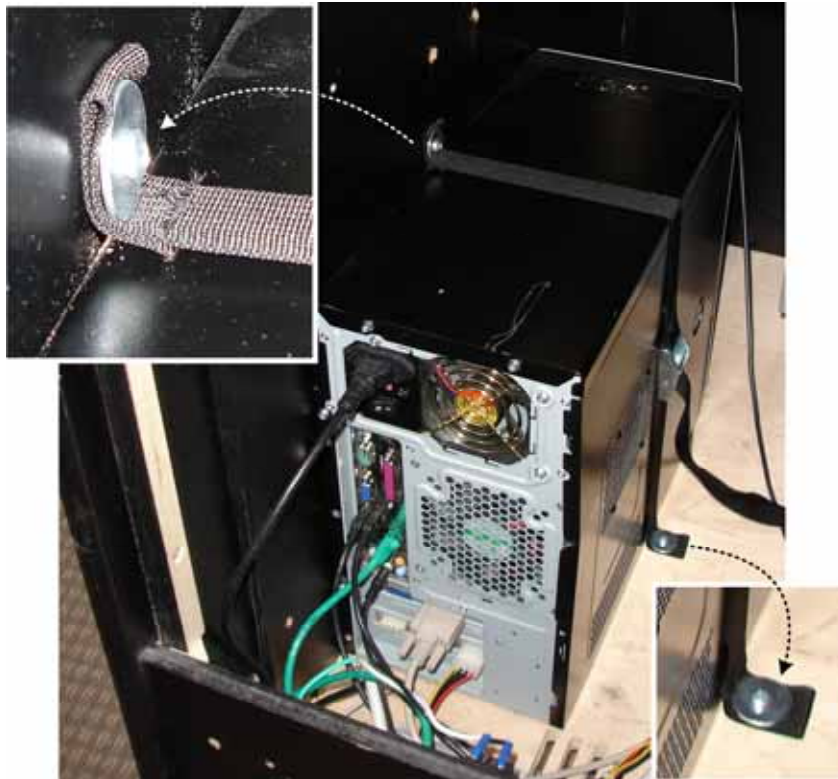

Figure 8. Securing the Computer
3. Refer to Figure 8 for an example of how to secure the computer with the mounting strap. Using two (2) #10 x 3/4" wood screws with fender washers, secure the ends of the strap as close as possible to the top and side of the computer. Make sure the two parts of the strap are lined up so they will buckle near the center of the computer. Buckle and tighten the strap.